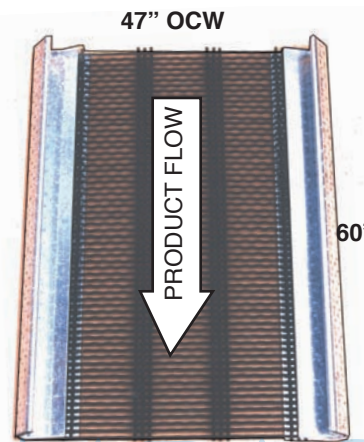
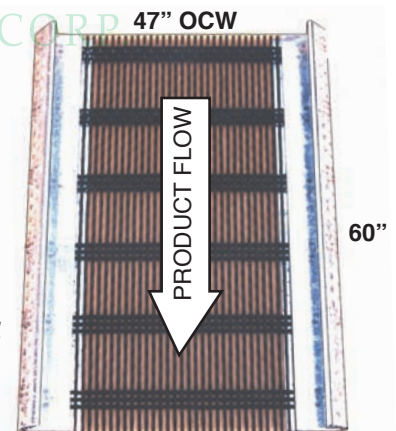

Fig. 2
Fig. 3
- C. If a slotted opening is required, the direction of the slot should be specified in relation to the hook strips. Number of shoot wires should also be specified (most common is single shoot and triple shoot). Slots "RA" or "Against the flow" indicate the slots are right angle to the hook strips. (See fig. 2) Slots "SP" or "With the flow" indicate the slots are parallel to the hook strips. (See fig. 3) (Note : End tension screens will change the slot direction terminology.)